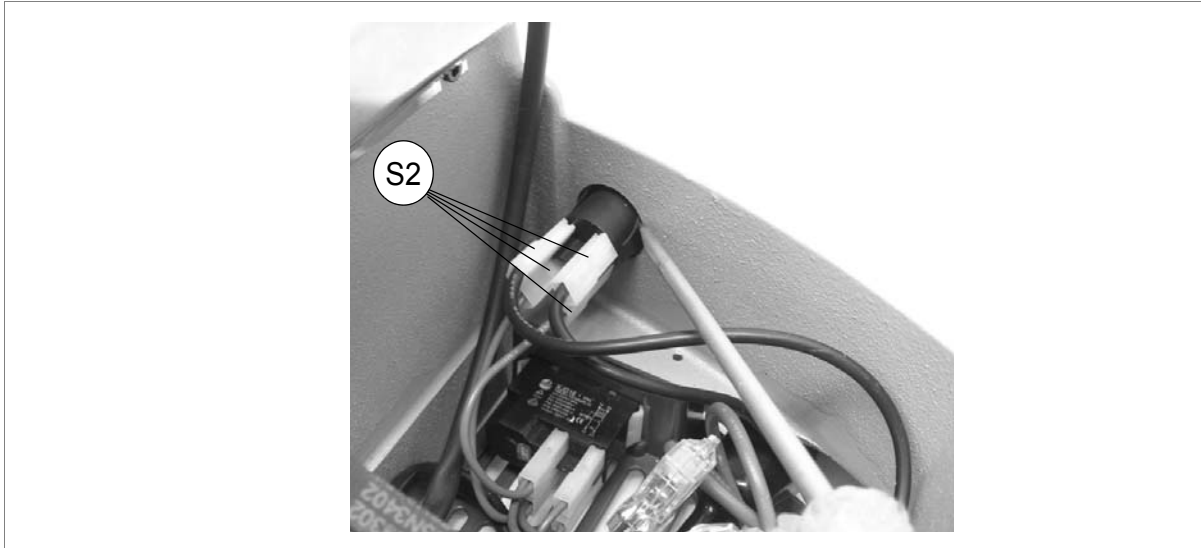
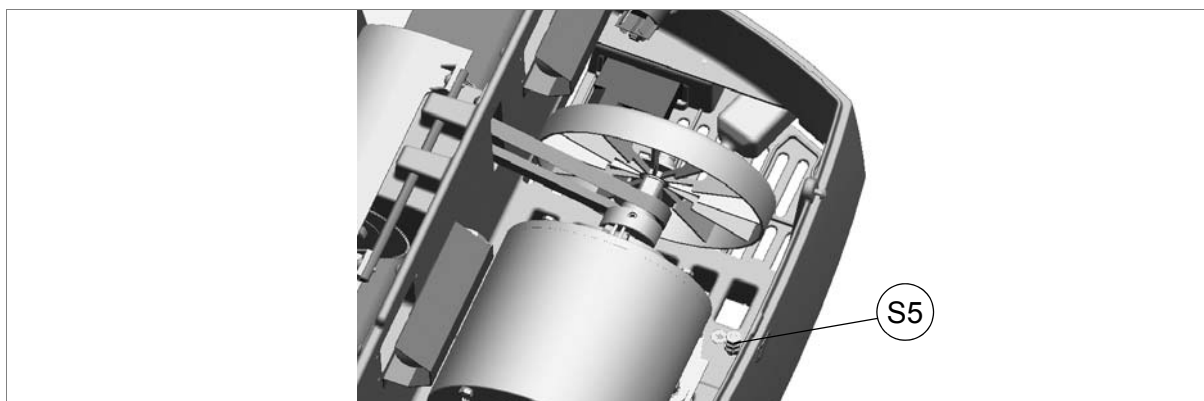

Fig. 74
Fig. 75
- 2) Detach the 4 connectors (S2) (fig. 74) paying special attention to their position.
- 1) Loosen the 4 screws (Q1) and remove the top cover (Q).
- 2) Detach the 4 connectors (S2) from the motor ignition switch and condenser (fig.74, page 46).
- 3) Unscrew the earth cable nut (S5) (fig. 75).
- 10) Connect the 4 connectors (S2) (fig. 74) to the motor on switch and fit the earth cable to its screw with the nut (S5) (fig. 75).